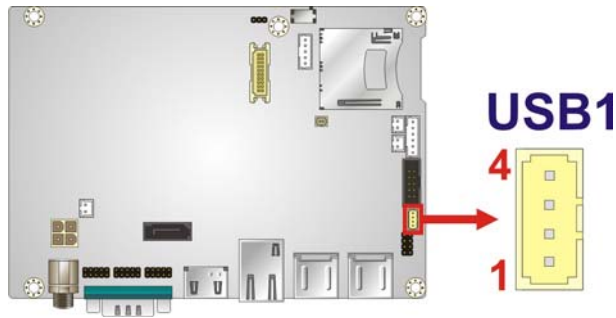

Figure 3-14: 4-pin USB Connector Location
- CN Location:** See **Figure 3-14**